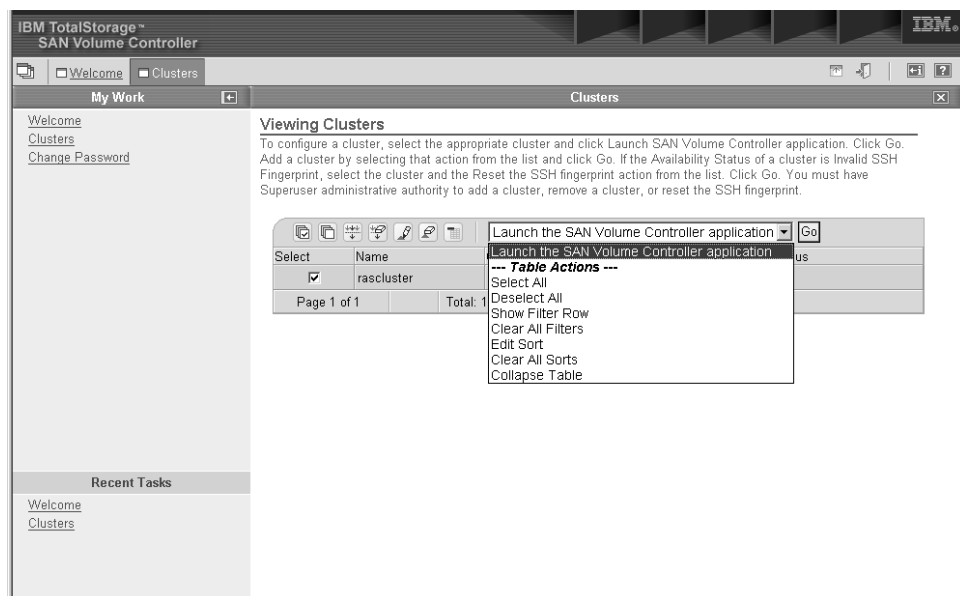

Figure 22. SAN Volume Controller console view cluster panel with drop down menu selected
- Because the SAN Volume Controller Console can support a number of SAN Volume Controller clusters, you must first select the SAN Volume Controller cluster that you want to service. Then, from the drop down menu, select Launch SAN Volume Controller Application as shown in Figure 22.